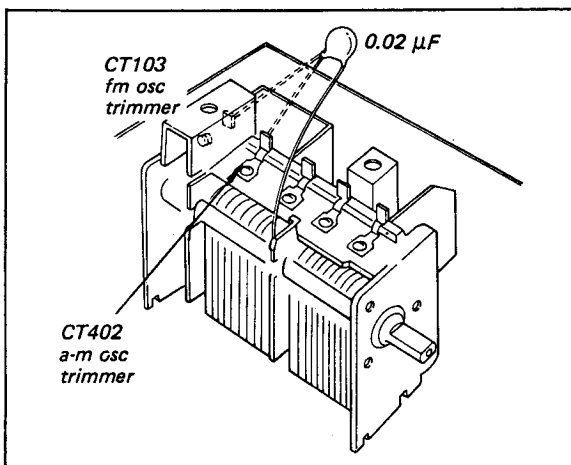

Fig. 3-2. Interruption of fm or a-m local oscillator operation
**Note:** Local oscillator should be killed when performing this alignment. To stop the local oscillator operation, shunt the oscillator capacitor with a 0.02  $\mu$ F capacitor as shown in Fig. 3-2.